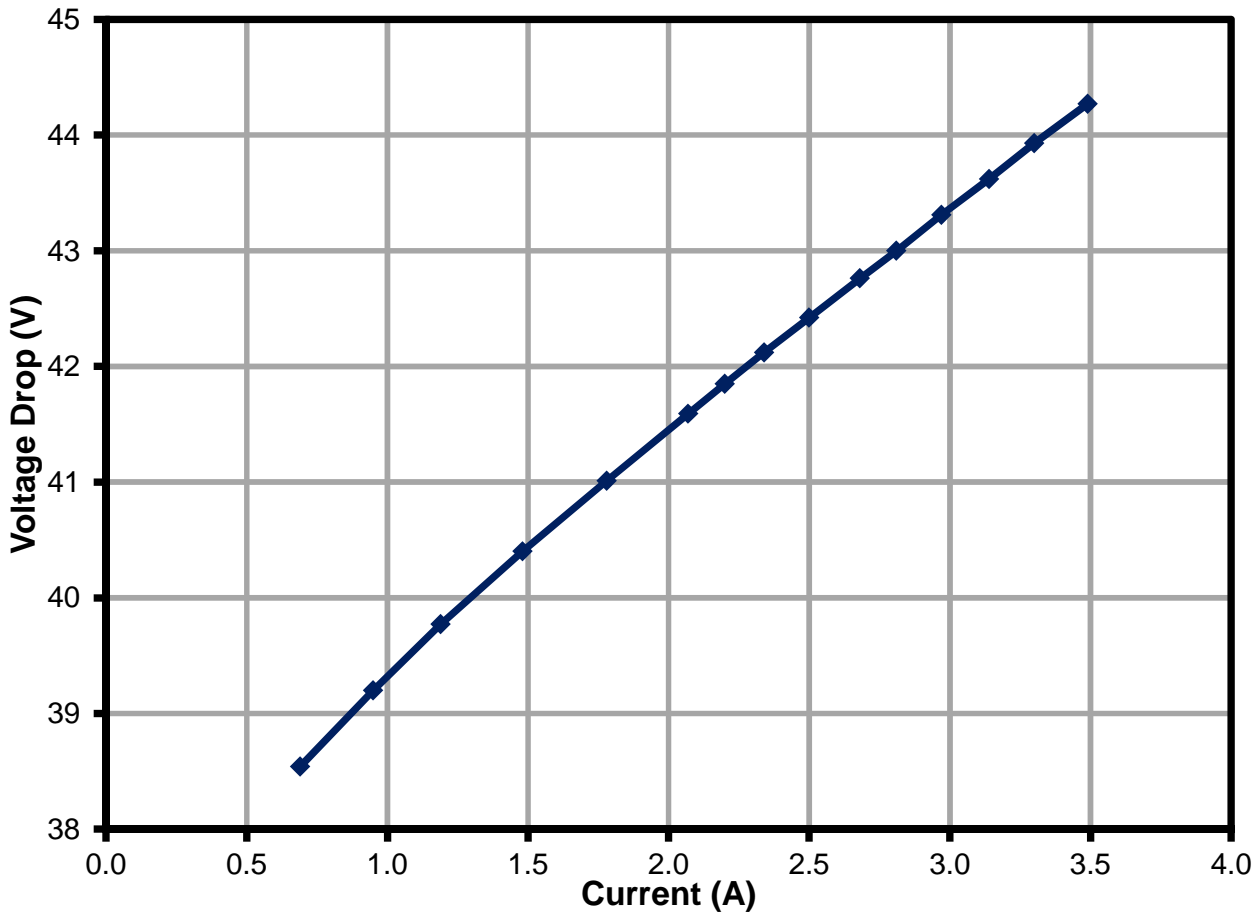
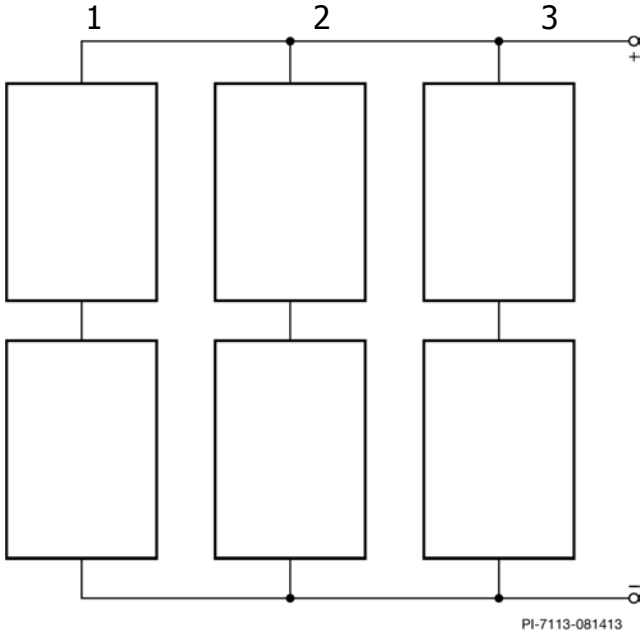
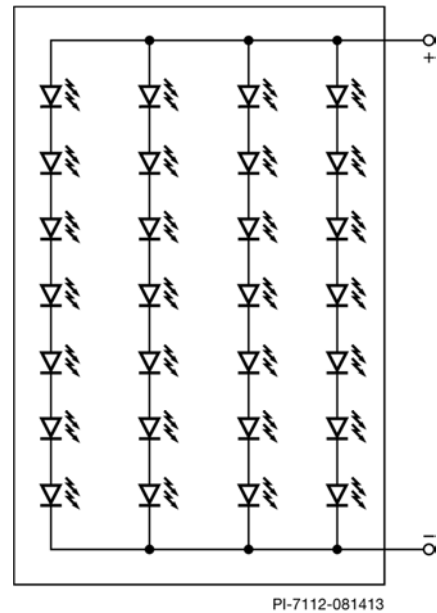
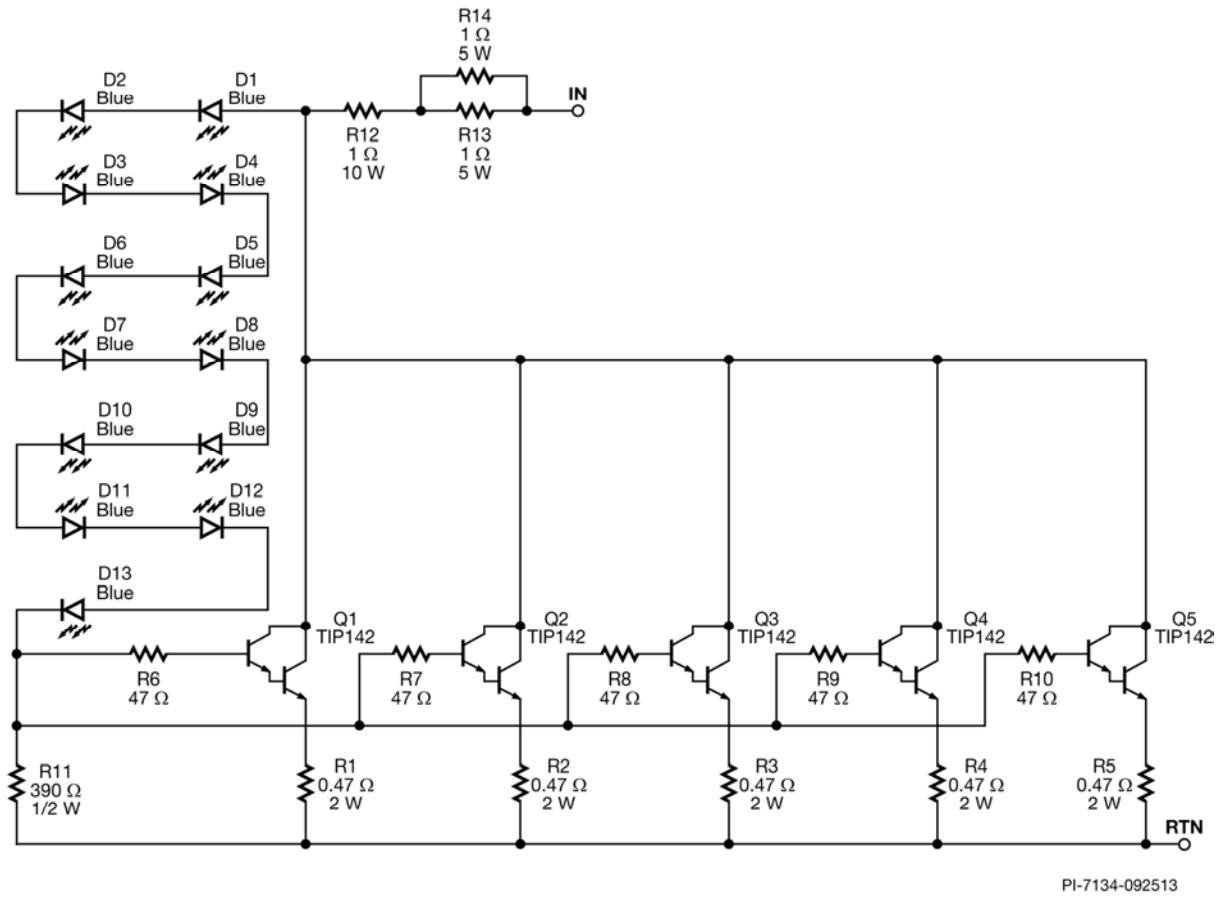

Figure 7 – Streetlight LED Array V-I Characteristic.
Figure 8 – LED Test Panel Layout.
Figure 9 – Array of LEDs in Each Test Panel.
Figure 10 – Constant Voltage Load Schematic.
A commercial 150 W LED streetlight was used to test the RD-382 power supply. The LED array consisted of (6) 7 X 4 panels, as 4 wide, 7 deep. For the purposes of testing, the six panels were connected in series-parallel, resulting in an LED array 12 wide, 14 deep (see Figures 8 and 9). The V-I characteristic of the LED panels connected in this manner is shown below in Figure 7.
Since this power supply has a constant current output tailored for a relatively fixed constant voltage load, the usual constant current electronic load cannot be used for testing. For bench testing at maximum power, a constant resistance load can be used, set such that the supply output is at maximum current and an output voltage of 43-44 V, as indicated by the V-I curve shown in Figure 7. Other testing, including dimming and gain-phase, will require the actual LED load or a constant voltage load that closely mimics its characteristics.
The streetlight LED as a load was both large and heavy. In order to facilitate EMI and surge testing, a constant voltage load was constructed to emulate the behavior of the LED array in a much smaller package. The circuit is shown in Figure 8. The load consists of paralleled power Darlington transistors Q1-5, each with an emitter resistor (R1-5) to facilitate current sharing. Base resistors R6-10 help prevent oscillation. A string of thirteen 3 mm blue LEDs (D1-13) are used as a voltage reference to mimic the characteristics of the LED panel. Resistor R11 is adjusted to vary the voltage at which the load turns on to match the characteristics of the LED panel. Resistors R12-14 add extra impedance in series with the load to approximate the characteristics of the LED panel. The completed array with heat sink is shown in Figure 9. A small fan was used to cool the heat sink when the load was operated for extended periods at full power. The V-I characteristics of the CV load are shown superimposed on those of the LED array in Figure 10. An electronic load with appropriate rating and a constant voltage option (with some series resistance) could also be used for testing, but this load has the advantage that no external AC power is needed.